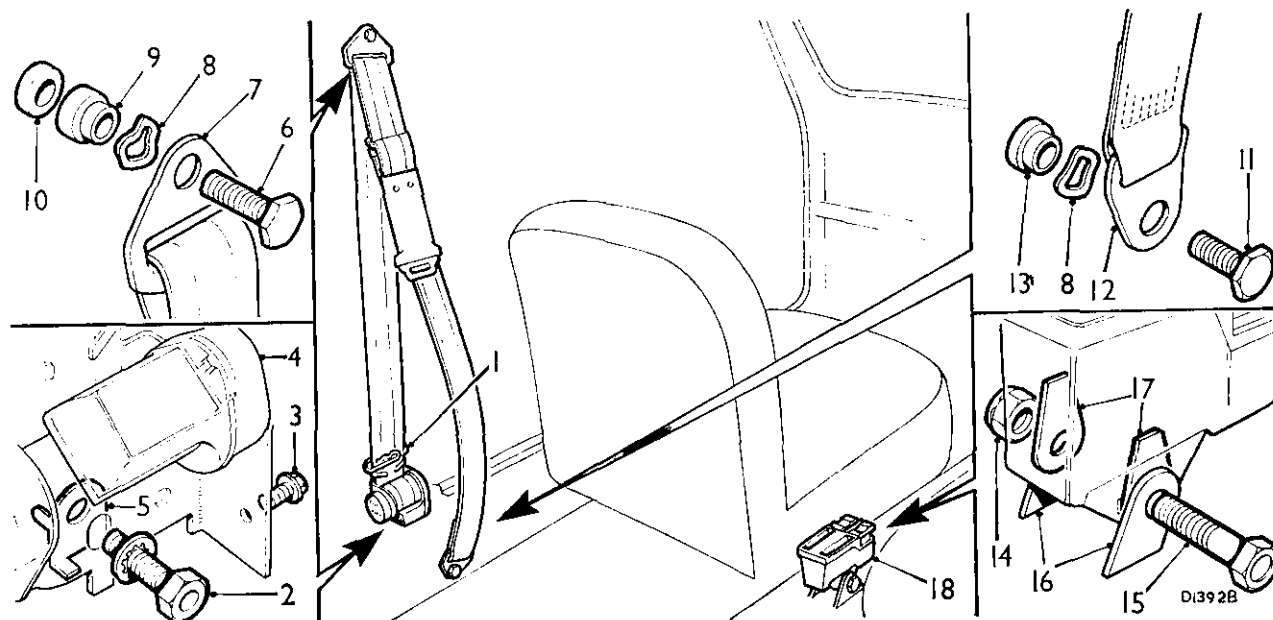

Fig. Rb.11
- (1) Before removing any belt fixings, attach a clip (1) to the belt just above the reel assembly to prevent the belt retracting during removal and storage. The clip (1) must not be removed until the belt assembly has been refitted, see Fig. Rb.11.
- (2) Withdraw most of the belt webbing from the reel and remove the locking unit retaining screw (3). Lift up the locking unit (4) to expose the reel retaining screw (2). Remove the screw (2) and detach the reel and locating bracket (5), see Fig. Rb.11.
- (3) Remove the screws retaining the belt brackets to the door pillar and sill. Note the assembly sequence of the distance pieces and anti-rattle washers, also the individual lengths of the fixing screws, see Figs. Rb.11 and Rb.12.
- (6) Remove the nut and bolt retaining the central console to its mounting straps and detach the console unit.
Britax: Note that a fibre washer (17) is fitted on either side of the console and is located between the central console and the mounting strap, see Fig. Rb.11.
- (d) The reel assembly, belt brackets and central console must be refitted with the relevant component parts assembled in the order shown in Figs. Rb.11, Rb.12, Rb.13, and Rb.14.
- (h) Tighten the reel locking unit retaining screw (3) Fig. Rb.11 to a torque figure of 5 lb. in. (.06 kg. m.).